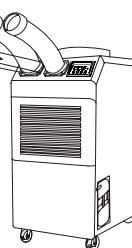

Figure 5
3. Use screws (enclosed inside of box with cool air outlet hose(s) to install the cool air outlet hose(s) on the unit as shown in Figure 5.